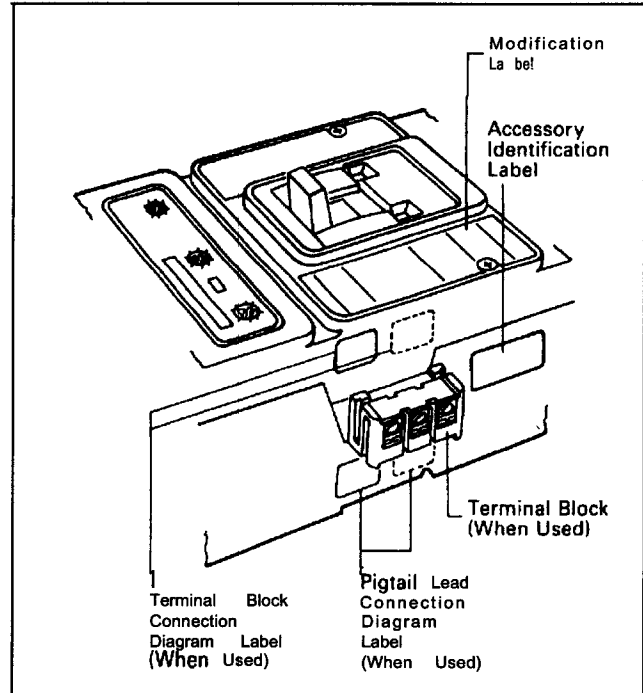

Fig. 2-5. Preferred Mounting Locations for Accessory Nameplate Labels
- 2-7. Place accessory labels (supplied with kit) on circuit breaker. (See Fig. 2-5.)